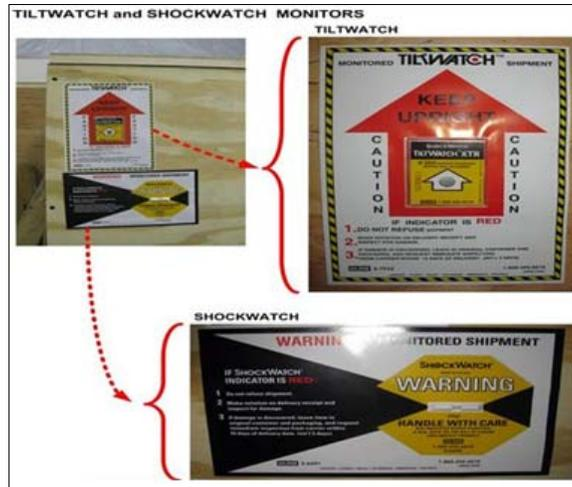

Figure 10: TiltWatch and Shockwatch Monitors
3. Inspect "TiltWatch" and "Shockwatch" monitors where these are present (Figure 10).